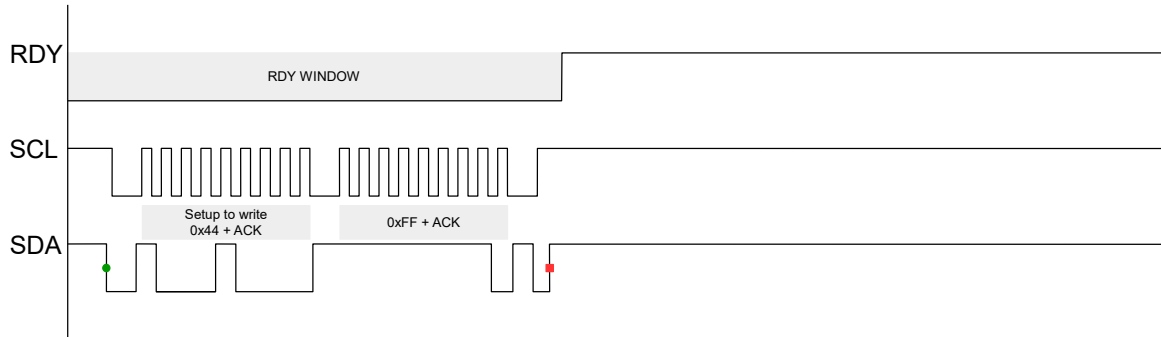

Figure 10.4: Force Stop Communication Sequence
- > Writing a single 0xFF byte will close the communication window, as illustrated in Figure 10.4.